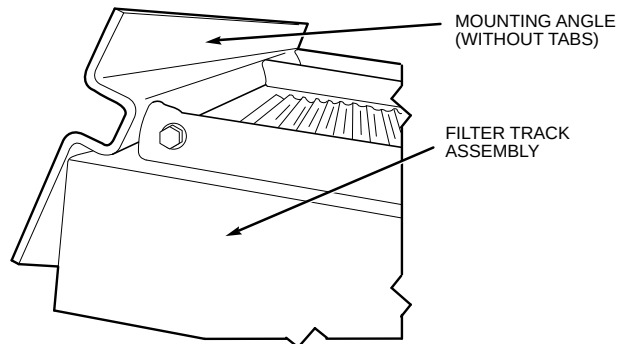

Fig. 25 — Mounting Angle (Without Tabs) Attached to Filter Track Assembly
13. Attach mounting angle (without tabs) to the assembled end of the filter track. See Fig. 25.